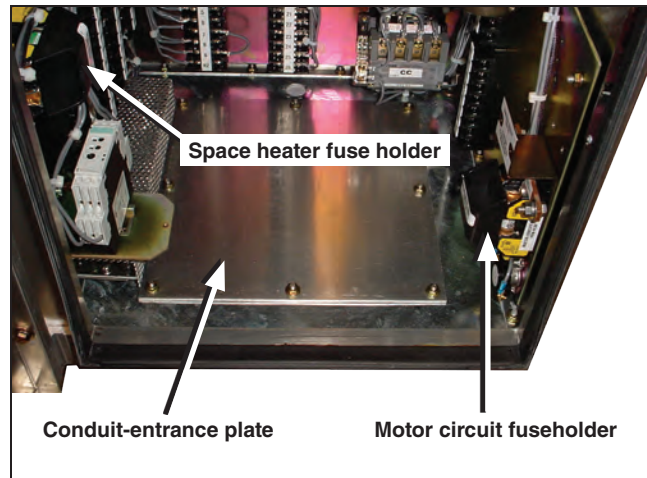

Figure 43. The conduit entrance plate.
**STEP 1.** Mark the conduit entrance location for the control-circuit and control-power wiring on the conduit entrance plate at the bottom of the switch operator enclosure. See Figure 43. Remove the conduit entrance plate and cut out the necessary openings.
To avoid accidental energizing of the operator after the external connections have been completed, remove the two-pole pull-out fuseholders for the motor and space heater. See Figure 43. **Reinsert the fuseholder only when indicated in the following steps.**